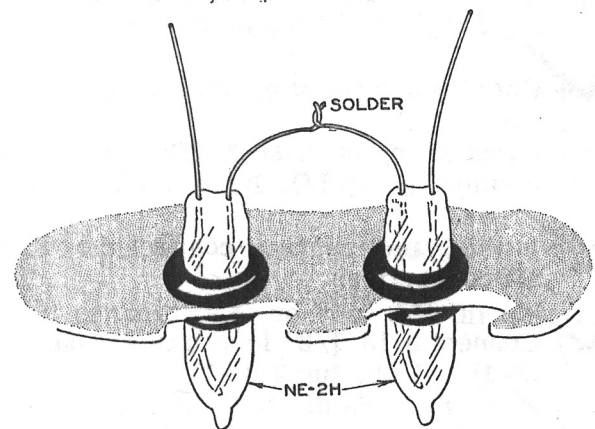

Figure 13
- (✓) Insert the eighteen NE-2H neon lamps in the rubber grommets adjacent to sockets AA through AI, as shown in Figure 13. Moistening the bulbs with saliva will make this easier.
- (✓) Twist together the two near leads from the two bulbs adjacent to each socket (S-2), as shown in Figure 13.
- (✓) Connect the lead of the nearest NE-2H to pin 8 of the socket (NS). Do this for each of the nine sockets AA through AI.